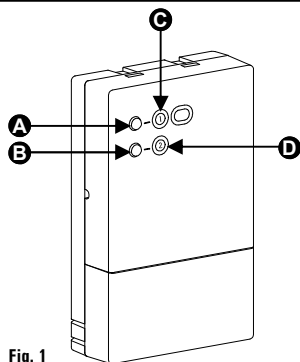

Fig. 1
#### LEDs (C and D Fig. 1)
### SELF-LEARNING BUTTONS (A and B Fig. 1)
The device is equipped with two self-learning buttons for setting up the wireless link between the thermostat (or programmable thermostat) and the receiver, one button for channel 1 (A Fig. 1) and one button for channel 2 (B Fig. 1).
- Press the self-learning button of the desired channel for a second (A Fig.1 for channel 1 and B Fig.1 for channel 2). The self-learning procedure starts: the relevant channel's LED will blink quickly yellow.
- Press and hold the button of the desired channel (A or B Figure 1).
- Press and hold both buttons **A** and **B** Fig.1